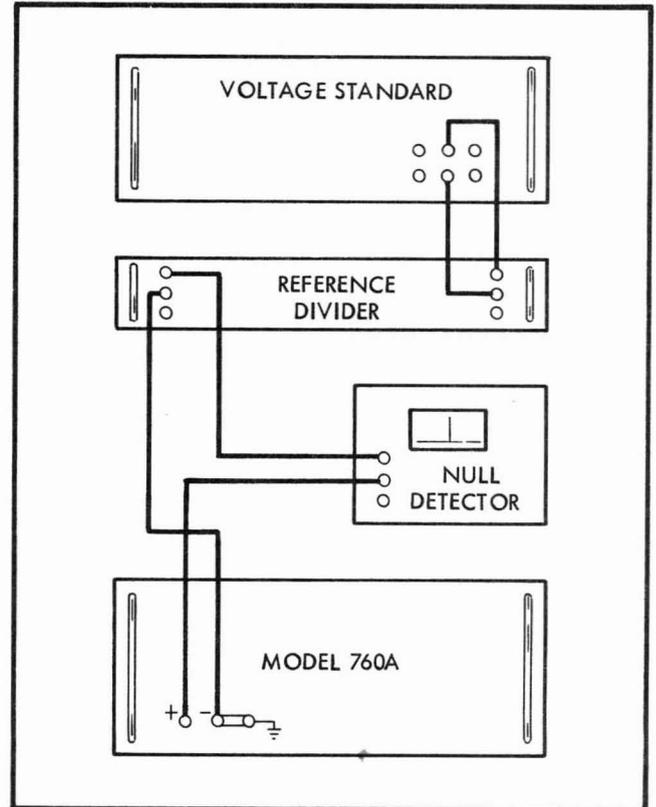

Figure 4-9. ONE MILLIVOLT MEASUREMENT SETUP
- i. To minimize thermal emf, use copper leads to connect the voltage standard (Model 332A), the reference divider (Model 750A), the null detector (Model 845AB), and the Model 760A as shown in Figure 4-9.